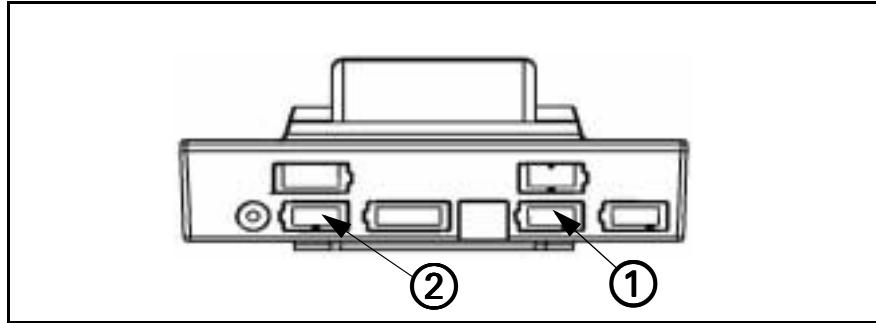
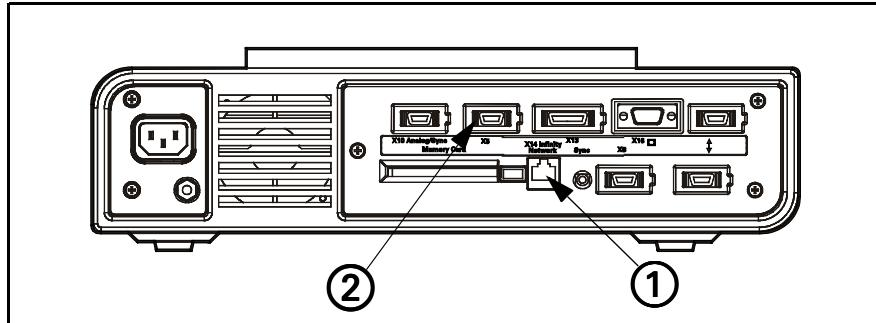

Figure 12-2 IDS (rear view)
Figure 12-3 SC 8000 (rear view)
- 2.2) Plug other end of shielded Ethernet patch cable into Ethernet port (① in Figure 12-2) on rear of IDS (if SC7000/SC9000XL) or on rear of SC8000 (① in Figure 12-3). Installed Adv. Comm Option II required.
- 2.1) Plug shielded Ethernet patch cable into Ethernet port (① in Figure 12-2) on rear of IDS (if SC7000/SC9000XL) or on rear of SC 8000 (① in Figure 12-3). Installed Adv. Comm Option II required in SC 8000.
Plug one end of video cable into X5 on rear of IDS (② in Figure 12-2), and then plug other end of cable into Video In (① in Figure 12-1) on MDS.
Plug one end of video cable into X5 on rear of SC8000 (② in Figure 12-3), and then plug other end of cable into Video In (① in Figure 12-1) on MDS.